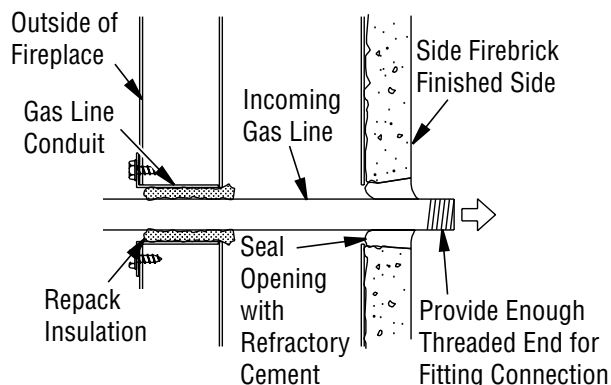

Figure 21 - Gas Line Installation
3. Install the left and right firebrick walls. Angle the wall into the fireplace opening and into the slots on the side of the hearth (**Figure 21**), then tilt the top of the panel toward the firebox surround.
3. Install a gas line into fireplace through the rear at gas line conduit sleeve (if using a raised platform, add height). Provide sufficient gas line into fireplace chamber for fitting connection (see **Figure 21**).